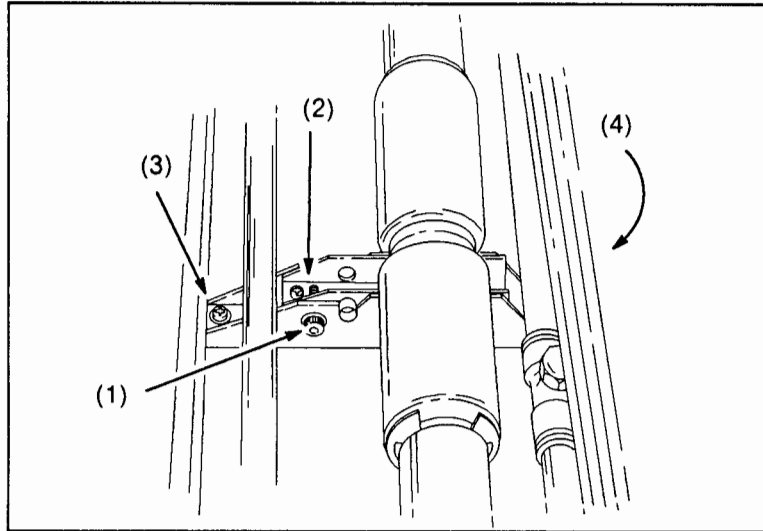

Figure 6-6. Center Bearing Adjustment
- i. Loosen the 3 mm Allen head lock screw (Figure 6-6 #1) and the 3 adjusting screws (Figure 6-6 # 2, 3 & 4) in the center bearing support.
- j. Slowly raise the center bearing support (Figure 6-6 #2) while moving the entire support assembly front to back.
- l. When the center bearing is resting firmly on both supports tighten the front to back adjusting screws (items 3 & 4 in Figure 6-6).